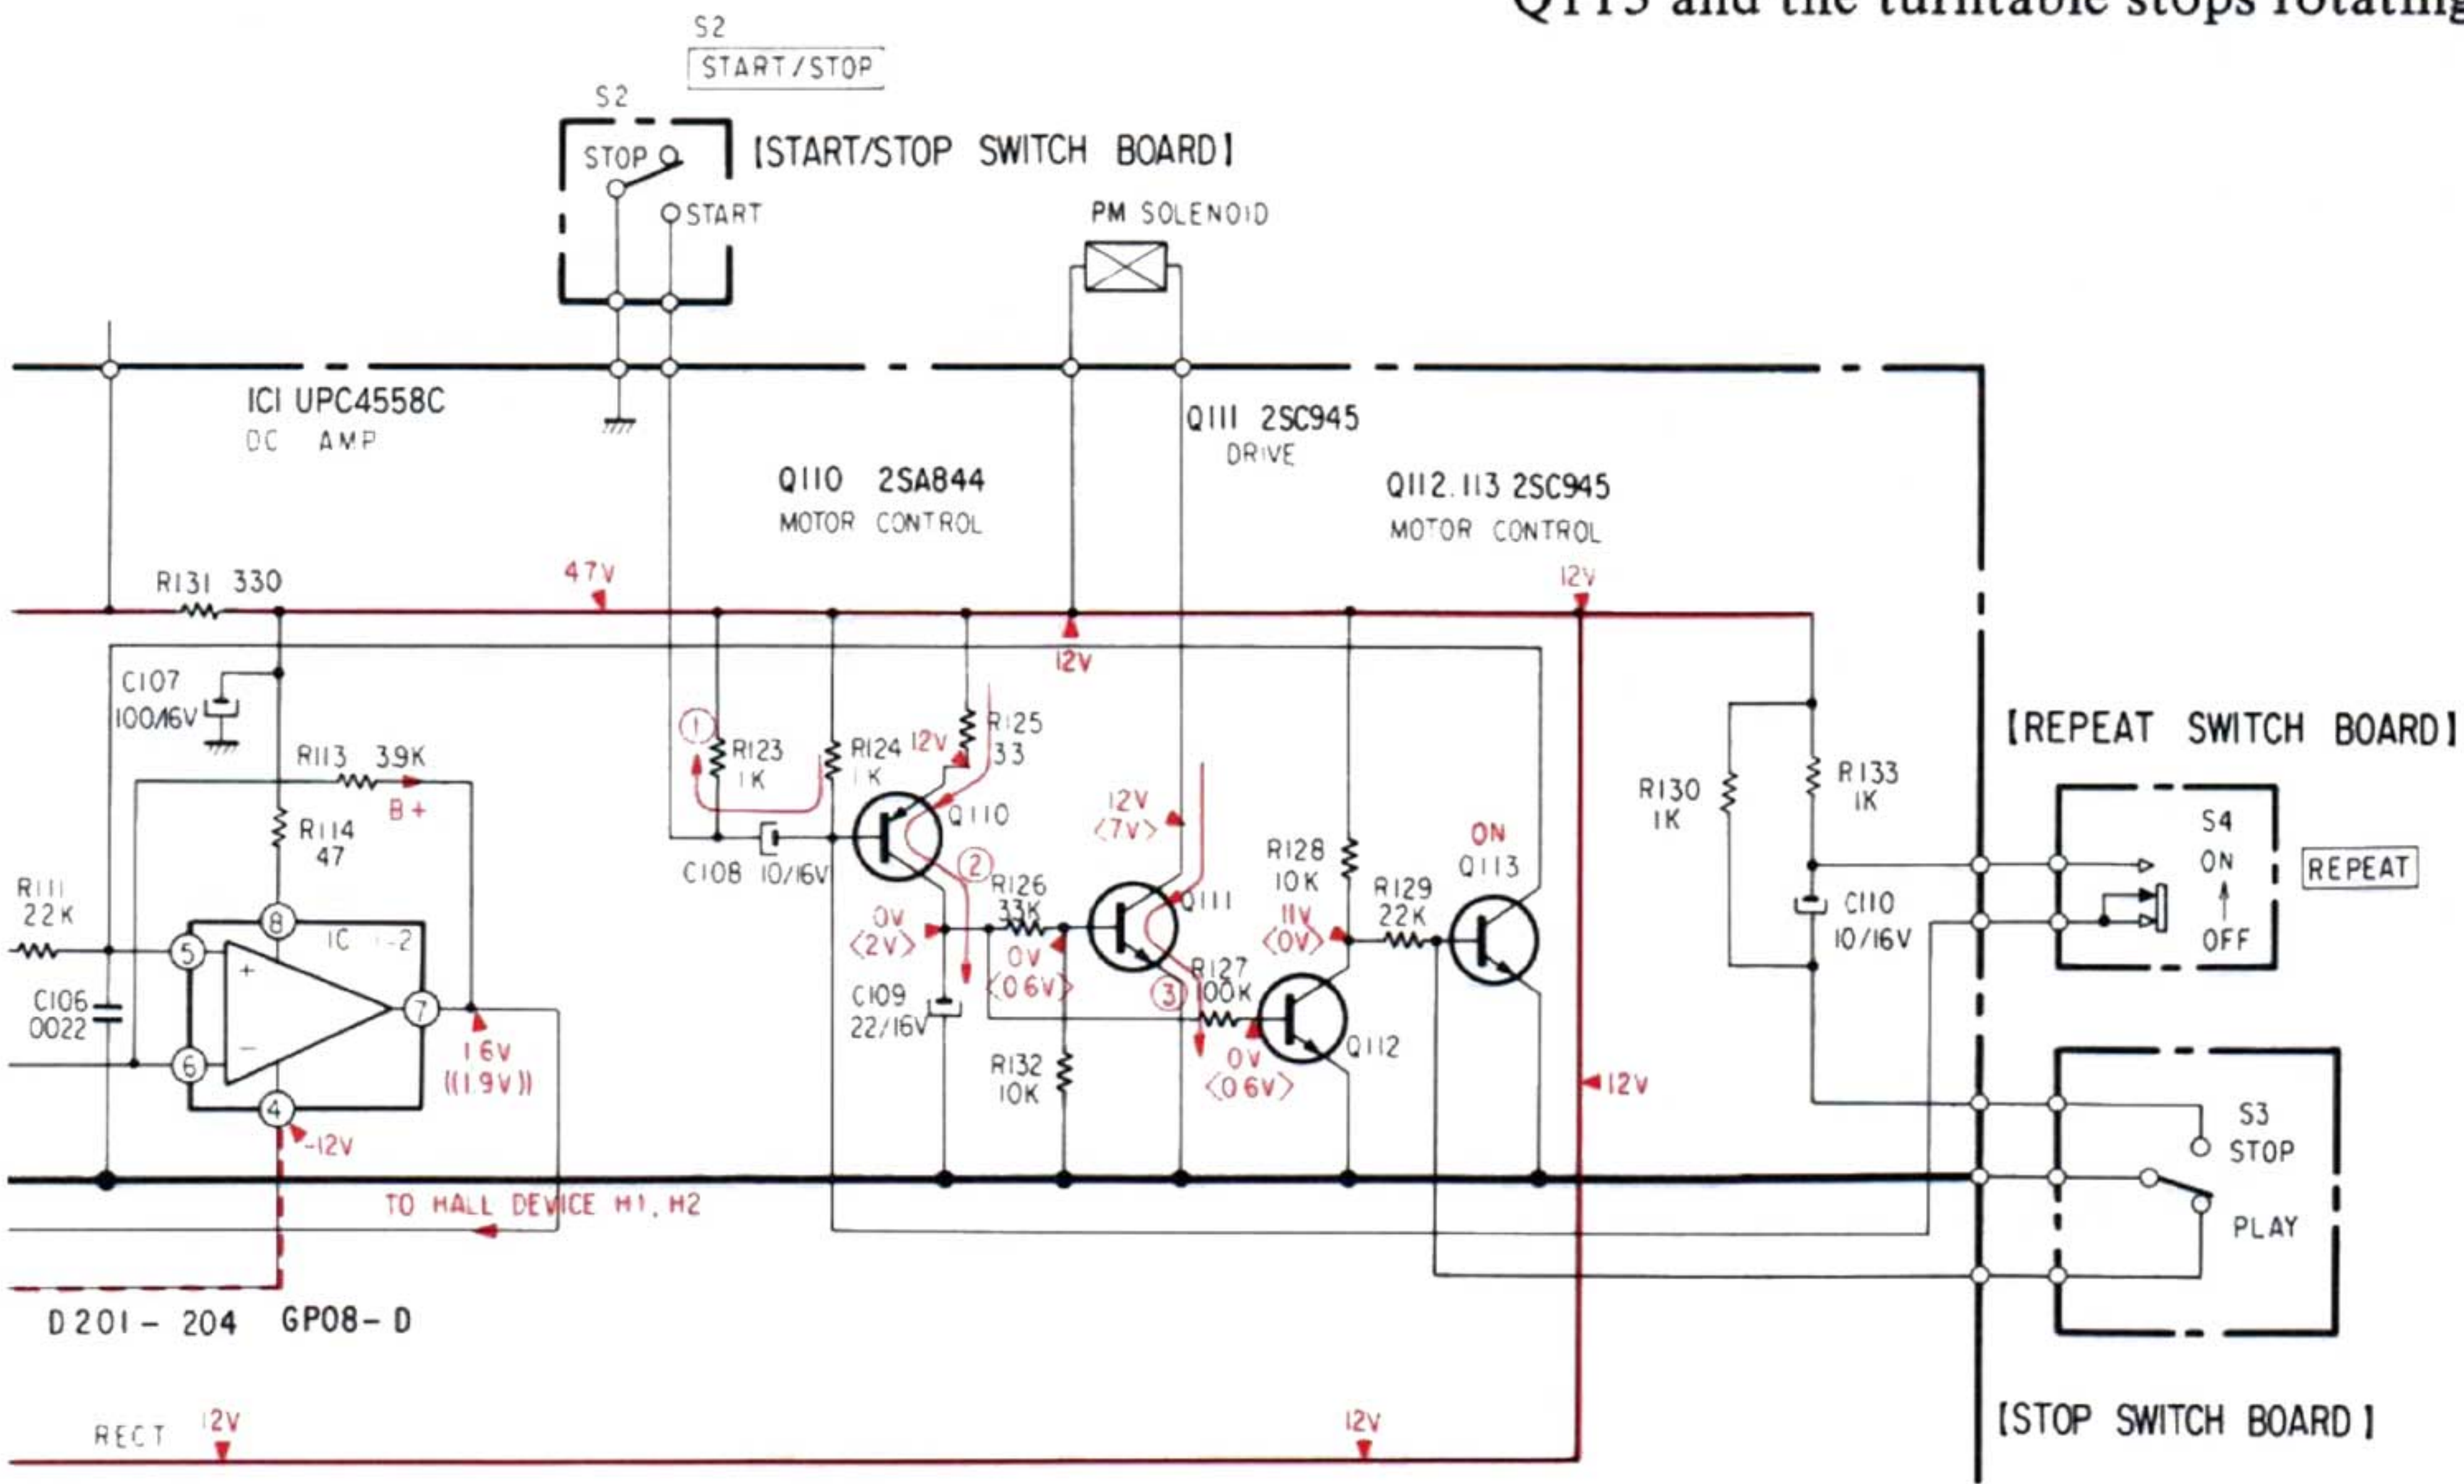

Fig. 1-16
2. STOP Operation (See Fig. 1-16)
- a. When the START/STOP switch (S2) is pushed during play, Q110 and Q111 conduct for a moment. This activates the solenoid (PM).
e. The terminal ⑤ of IC1-2 is grounded via Q113 and the turntable stops rotating.